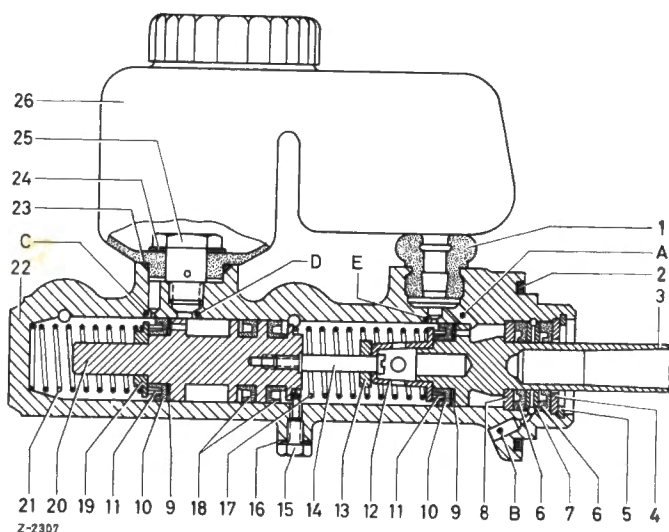

Fig. 42-3a/5
The piston (3) of the push rod circuit is provided with a piston cup washer (9) and primary cup (10). the thrust ring (11) engages the primary cup and is peened on the piston stem. The pressure spring (17) presses the piston against the support ring (8) via the spring retainer (12). The rear piston (3) is coupled to the intermediate piston (20) of the floating circuit by means of the connecting screw (14). A piston stop washer (13) is located between the spring retainer (12) and the intermediate piston. The intermediate piston carries the ring cups (18), which seal the two chambers of the tandem master cylinder off against one another, and in addition the piston cup washer (9) and the primary cup (10). The pressure spring (21) presses the intermediate piston against the stop screw (15) via the spring retainer (19). The housing carries the transparent reservoir (26), which is attached to the housing at the front by means of a hollow screw (25). Sealing is provided by an O-ring (23) and the reservoir plug (1). The reservoir is divided by a comparatively high partition so that each chamber has its own reservoir (Fig. 42-3a/5).